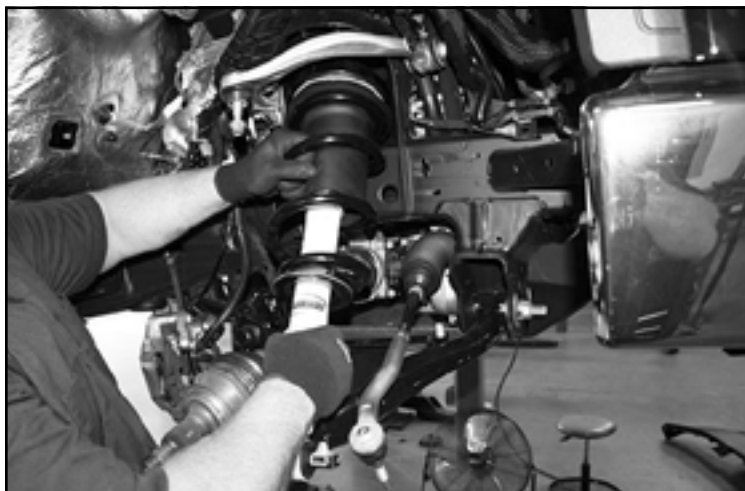

FIGURE 18 - STEP 13
13. Next remove the upper three nuts attaching the strut to the frame mount. Then, remove the strut assembly from the vehicle. Save hardware. **SEE FIGURES 18**